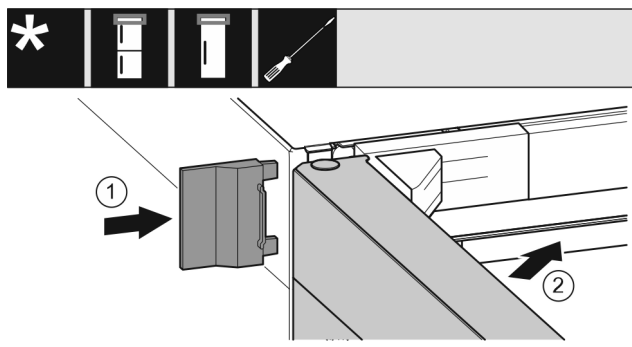

Fig. 22
- ▶ Push the outer cover Fig. 22 (1) on.
- ▶ Close the upper door Fig. 22 (2).